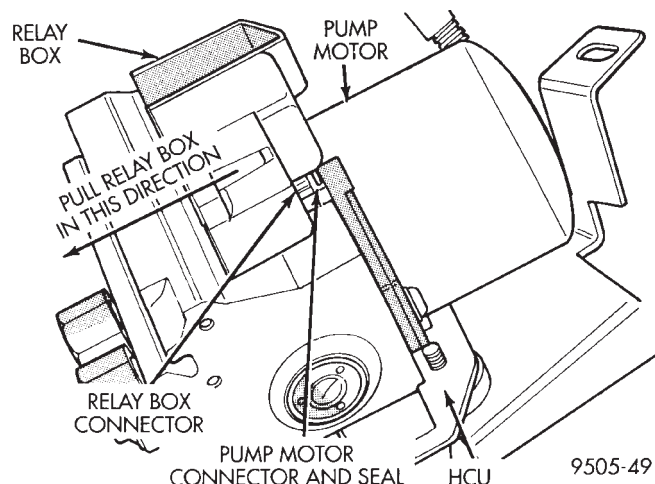

**Fig. 26 Relay Box To HCU Electrical Connection**
- (4) Grasp relay box with both hands. Without twisting or rocking, pull relay box away from pump motor housing until connector on relay box unplugs from the pump motor terminal (Fig. 26). **This is a tight connection, relay box will require a good amount of force to unplug it from the pump motor.**
- (5) Remove relay box from HCU.